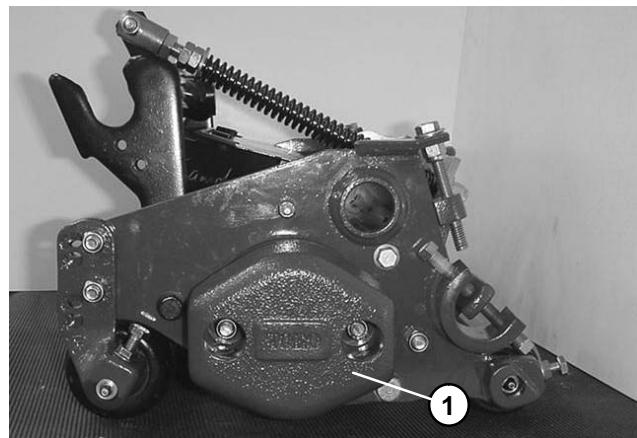

Figure 38
- A. Remove the mounting nuts from the counterbalance end weight (Fig. 38).
1. Remove counterbalance end weight (Fig. 38).